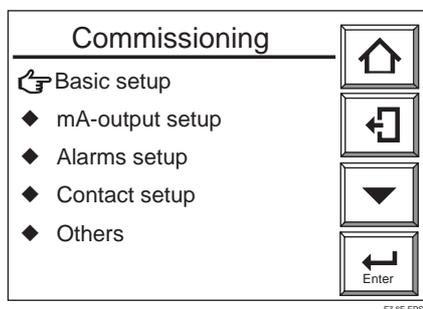

Figure 7.6 Commissioning (“Setup”) Display
- (1) Press the setup key.
- (2) Use the ▼key to select Setup and press the [Enter] key.
- (3) In the password display, enter the [Enter] key. If the password is to be set again, enter the new password (for details, see Section 8.6.5, “Passwords,” later in this manual).
- (4) The Setup display shown in Figure 7.6 appears. Select “Basic setup” and press the [Enter] key.